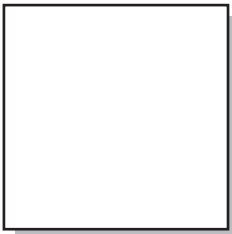

Fig.28
- The pressure hose is stored on the hose reel located above the accessories holder. With the front of the pressure washer facing towards you, insert the un-threaded end of the power hose into the square hole and begin turning the handle away from you (counterclockwise). (Fig.28) Pull the handle out horizontally with your right hand in order to unlock it. When the reel has gone about 1/4 turn with the fitting inserted into the square hole, place the hose under the indentation on the side of the reel to keep it in place while winding it up.(Fig.29)